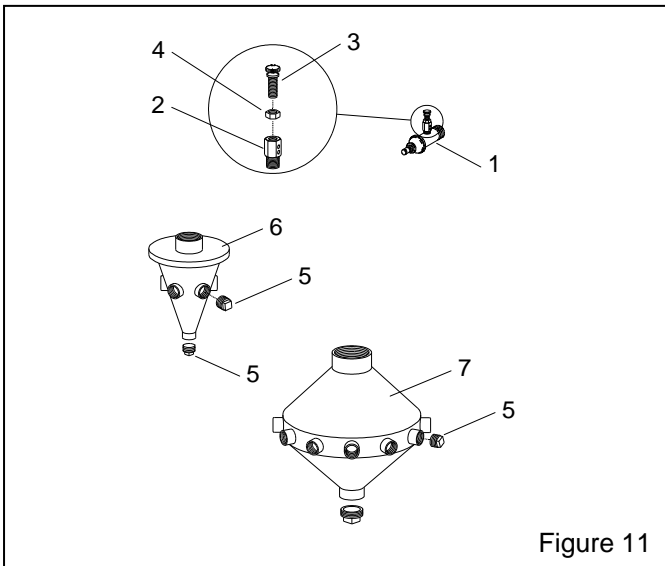

Figure 11
10.2 Media Metering Assemblies, Figure 11